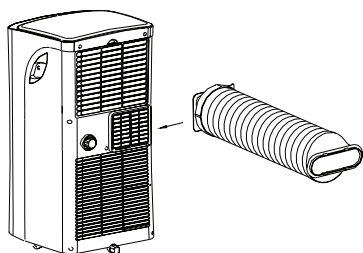

Fig.18
2. Push the Exhaust hose into the air outlet opening using the arrow direction (See Fig. 18).